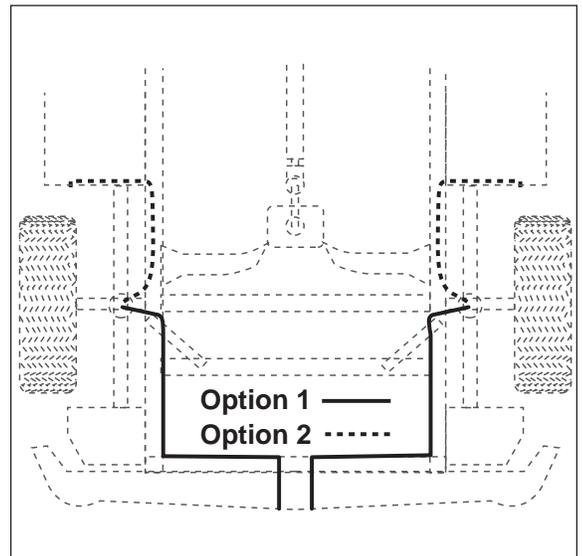

Figure 8
- Select a location for the inflation valves in the rocker panel flange, or front bumper, assuring that each valve will be protected and accessible with an air hose (Figure 8).